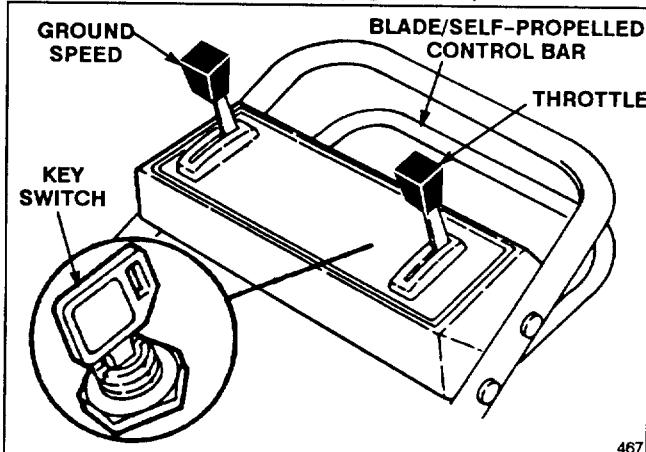

Figure 7
1. CONTROLS — Key switch, ground speed control, throttle, blade/self-propelled control bar, and fingertip starter are on upper handle (Figs. 7 & 8).